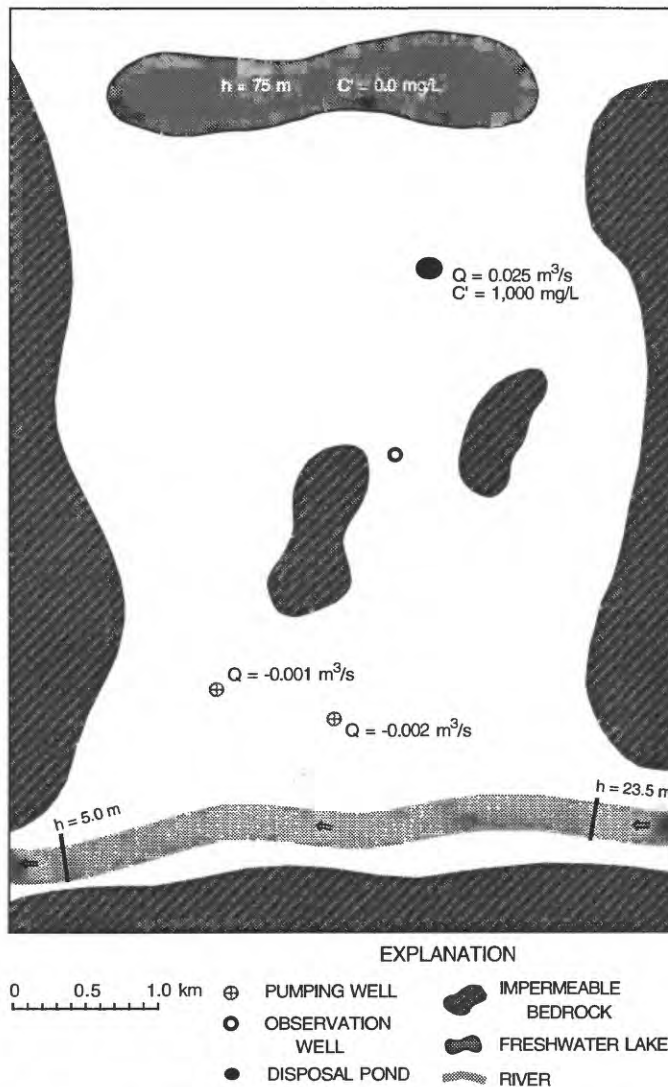
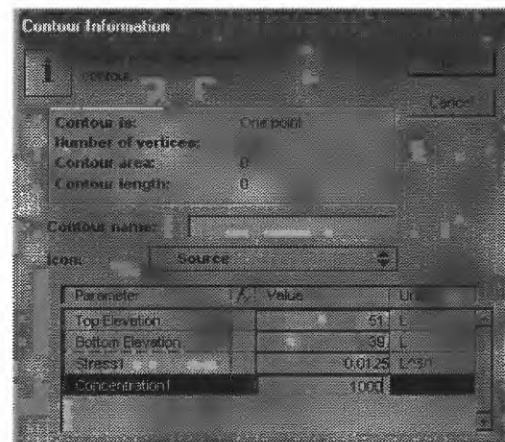

Figure 16. Base map for a two-dimensional sample problem.
Figure 22. Contour Information dialog box displaying the values used for one of the two wells used to represent the disposal pond in the sample problem.
The two-dimensional sample problem is based loosely on the ground-water contamination problem documented at the Rocky Mountain Arsenal, Colorado (Konikow, 1977). For use as an example for the application of modeling techniques, the properties and boundaries of the physical system have been approximated and greatly simplified. The results of this example problem, therefore, should not be taken to have any direct bearing on the actual field situation in Colorado. All of the information needed to define the problem are presented in the base map (Figure 16) and in Table 1. The area is bounded on two sides by impermeable bedrock, which act as no-flow barriers. The boundary at the top of the map is dominated by a freshwater lake, which can be assumed to represent a fully penetrating constant-
The page-size base map shown in Figure 16 was saved as a DXF file. First, we will import this DXF file into a map layer. In the floating layers window, click to the left of the "eye" icon next to Map Unit1. This will make that layer active. Under the File pull-down menu in the main Argus ONE window, choose Import Map Unit1, and drag the mouse to the selection arrow to the right edge of the menu, which opens a sub-menu listing file types. In the sub-menu, select DXF File. That will open a dialog box to specify which file to open. After selecting the desired file name (*rma\_map.dxf* for this example), click Open. This will import the DXF file. The *rma\_map.dxf* file is in units that do not fit within the default Argus ONE scale; a dialog box appears asking if the
3. Define regions of no flow: Copy the five objects in the Map Unit1 layer that correspond to impermeable areas in which there are no-flow zones (see Figure 16) and paste them into the Added Inactive Area Unit1. The default value (0) of the pasted objects defines them as no-flow barriers.
will open a Contour Information dialog box where the information associated with that well is entered (see Figure 22, which shows the values appropriate for each of the wells used to represent the disposal pond). Note that because the disposal pond is being represented by two separate wells, the stress rate must be divided between them to account for the known flux. (If a coarse grid is used and both wells fall within one cell, *MODFLOW-96* will account for both stress rates at a single node and the total flux will be consistent with the known value). Repeat this process for each well. Refer to Figure 16 for information associated with each well (use the
elevation values shown in Figure 22 for all of the wells). Stresses are negative in sign to represent withdrawals at the two pumping wells, and concentrations at these wells can be ignored because water is only removed. We also selected Sink icons for the pumping wells using the icon selection box in the Contour Information dialog box. When finished, values for four wells should have been entered.